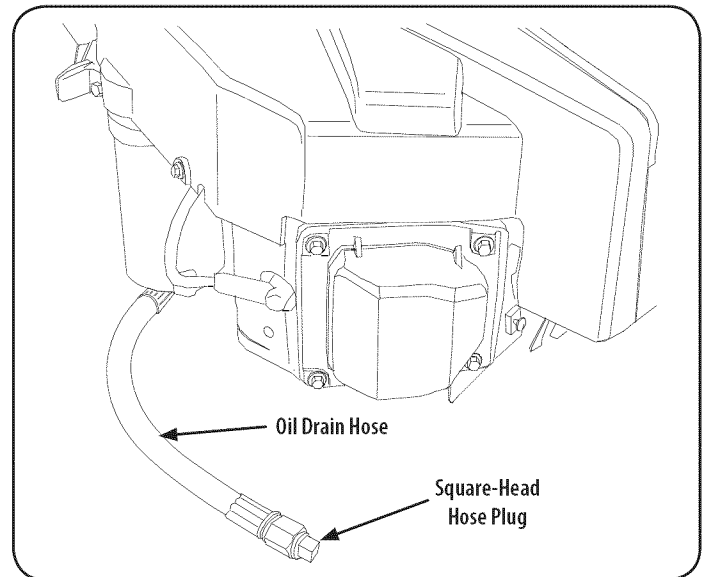

Figure 24
2. Locate the oil drain hose on the engine. See Figure 24.
4. While holding the free end of the oil drain hose over the oil collection container, unscrew the square-head hose plug from the end of the hose. See Figure 24. Drain the engine oil into the collection container.